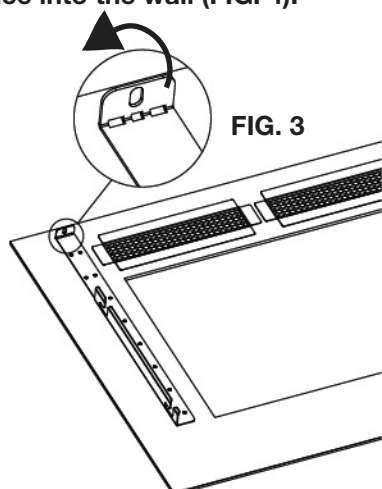

FIG. 3
- Bend the 2 top tabs upward on the front glass (FIG. 3, next page).